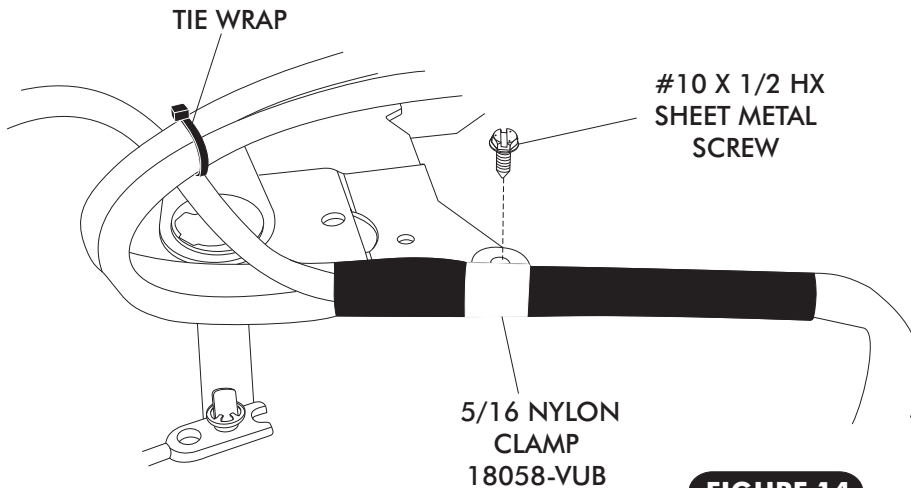

FIGURE 14
- SECURE THE WIRING HARNESS TO THE CONTROL PANEL USING A 5/16 NYLON CLAMP AND #10 X 1/2 HX SHEET METAL SCREW. SEE FIGURE 14 BELOW.
- USING THE SUPPLIED TIE-WRAPS, TIE THE WIRES AND THE UNUSED WIRE TO THE CONTROL PANEL AS SHOWN IN FIGURE 14 BELOW. CONFIRM THAT WIRES ARE SECURE AND DO NOT INTERFERE WITH LEVER OPERATION OR SLIDE POT ASSEMBLY.